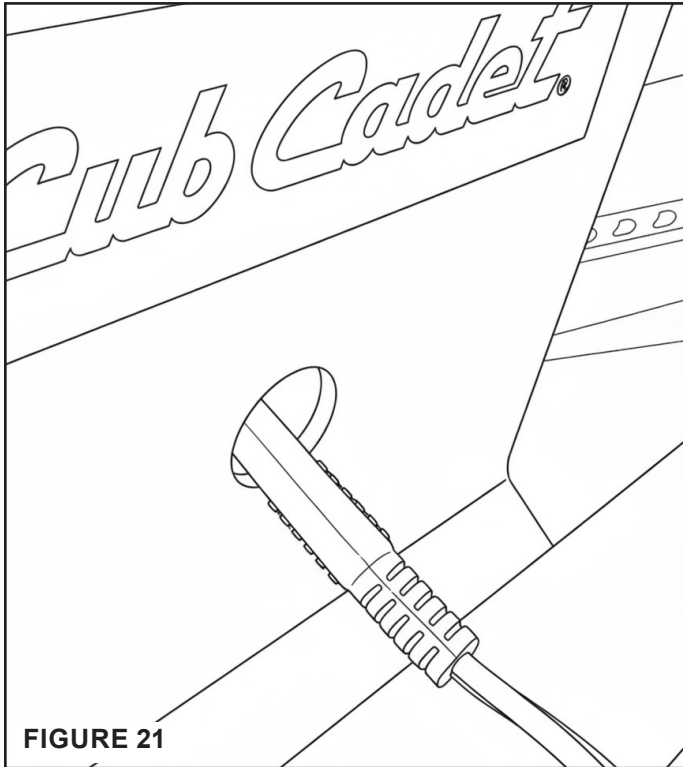

FIGURE 21
ÉTAPE 21 : (VOIR FIGURE 21)
- Install the harness from the motor through the hole on the bracket control assembly (4).